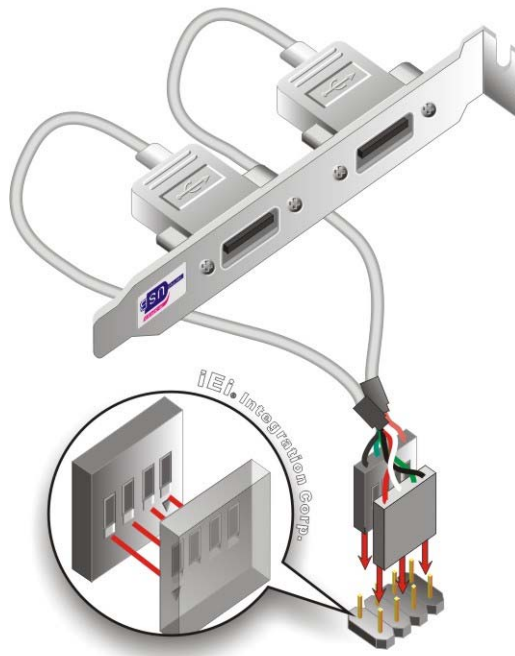

Figure 4-9: Dual USB Cable Connection
- Step 3: Insert the cable connectors.** Once the cable connectors are properly aligned with the USB connectors on the KINO-DBT, connect the cable connectors to the on-board connectors. See Figure 4-9.